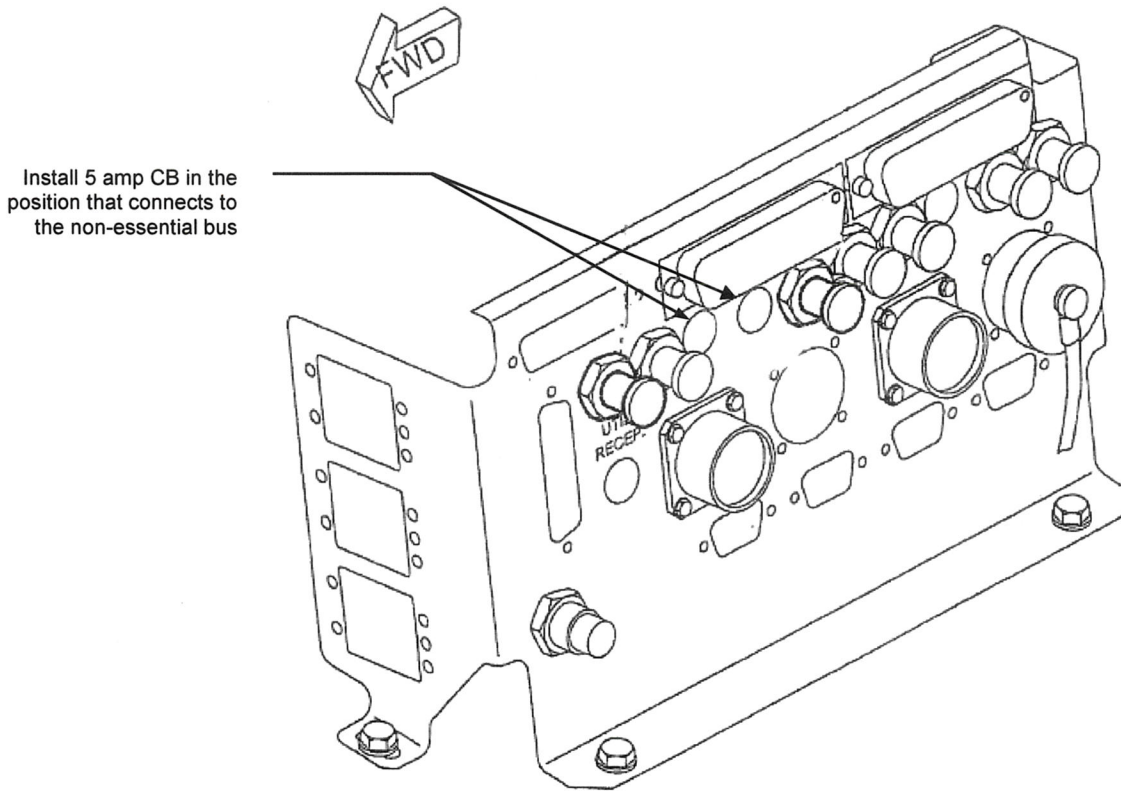
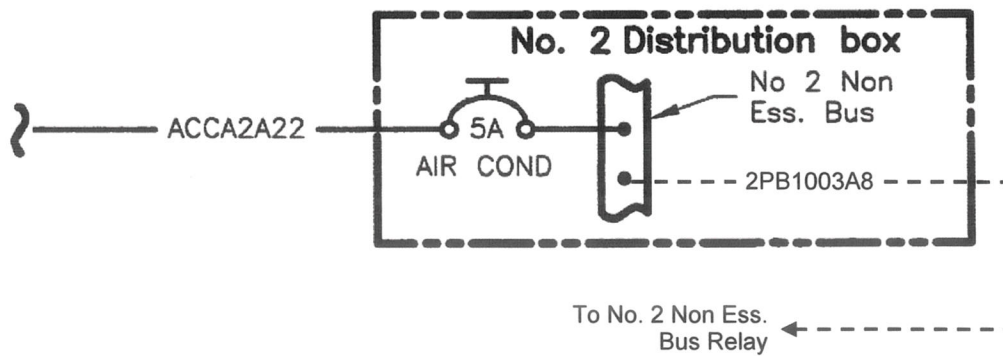

Figure 1.1
Figure 1.2
9. Remove attaching hardware securing No. 2 Distribution Panel (A10012 panel) and position to access air conditioner 5 amp circuit breaker (shown in Figure 1.1). Re-configure circuit breaker as needed to connect it to the No. 2 Non-essential bus according to Figure 1.2. Repeat test.